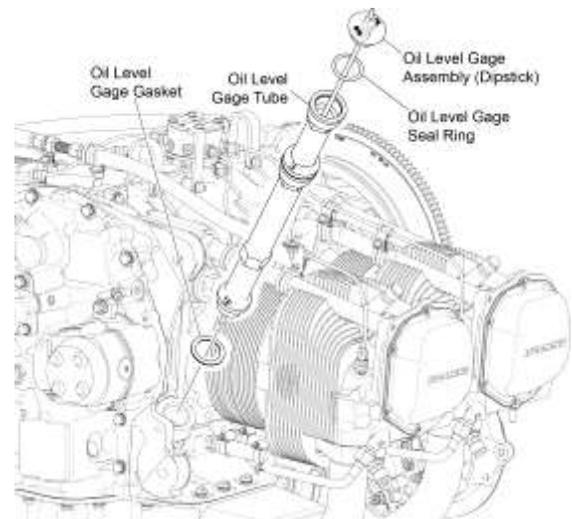

Figure 1
- (1) Pull out the oil level gage assembly (dipstick) from the oil level gage tube (Figure 1).
- (2) Wipe all oil from the dipstick end with a clean, lint-free cloth. Do not let any lint or dirt remain on the dipstick or get in the oil fill port.
- (3) Insert the dipstick fully back into the oil level gage tube, threaded all the way down to the oil sump and then remove the dipstick.
- (4) Look at the oil level indication on the dipstick end.
- (1) Pull out the oil level gage assembly (dipstick) (Figure 1) from the oil level gage tube.
- (2) Add either new clean mineral oil (if within the first 50 hours of operation of a new, rebuilt, or overhauled engine) or specified oil of the correct quantity and viscosity for the ambient temperature (identified in Appendix A in the ***LIO-360-B1G6 Engine Installation and Operation Manual*** or the latest revision of Service Instruction No. SI-1014) to the oil sump through the oil level gage tube.
- (3) Measure the oil level per the “Oil Level Check” procedure in this chapter. Add more oil if necessary until the oil level in the engine is sufficient.
- (4) In the engine logbook, record the amount of oil added to calculate oil consumption.
- (5) Install the oil level gage assembly (dipstick) into the oil level gage tube securely.